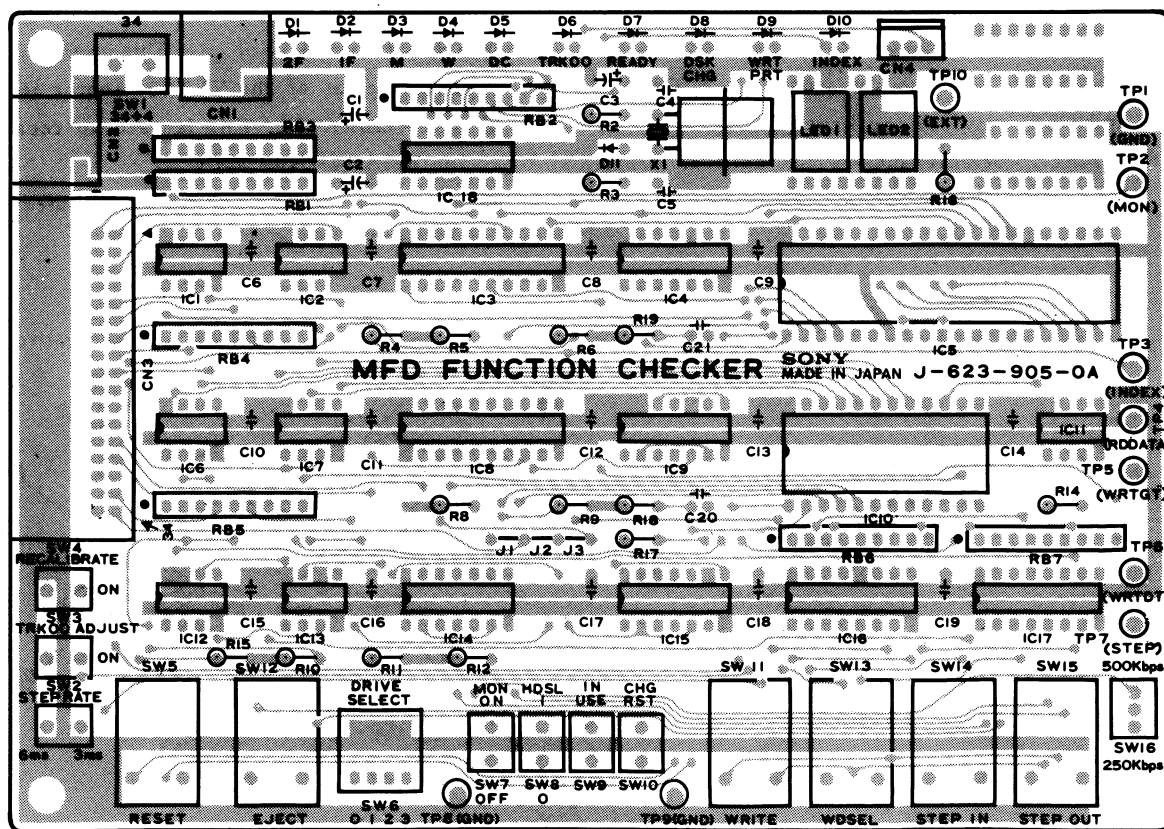

Fig. 2-2 Part Layout on MFD Function Checker
(3) Part Layout and Circuit Diagram on MFD Function Checker. (Refer to Fig. 2-2, 2-3)